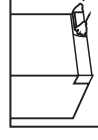

Fig1
- 1) Pick up the bottom cover lightly (Fig. 1);